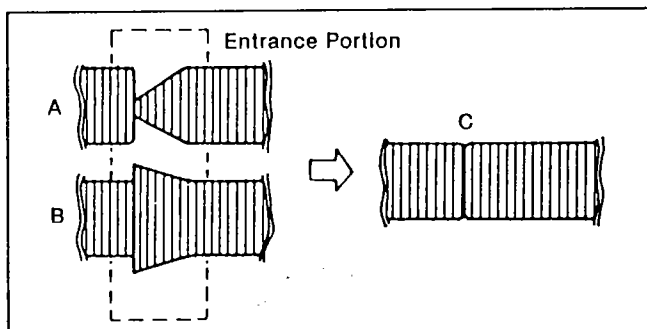

Figure M15
- If the RF envelope appears like example "A" or "B" in Figure M15 then adjustment of the tape guide post (P2 : Entrance) is necessary.
- Adjust the tape guide post (P2) with the post adjustment screwdriver so that the RF envelope waveform at the entrance portion becomes flat as shown in Figure M15-"C".